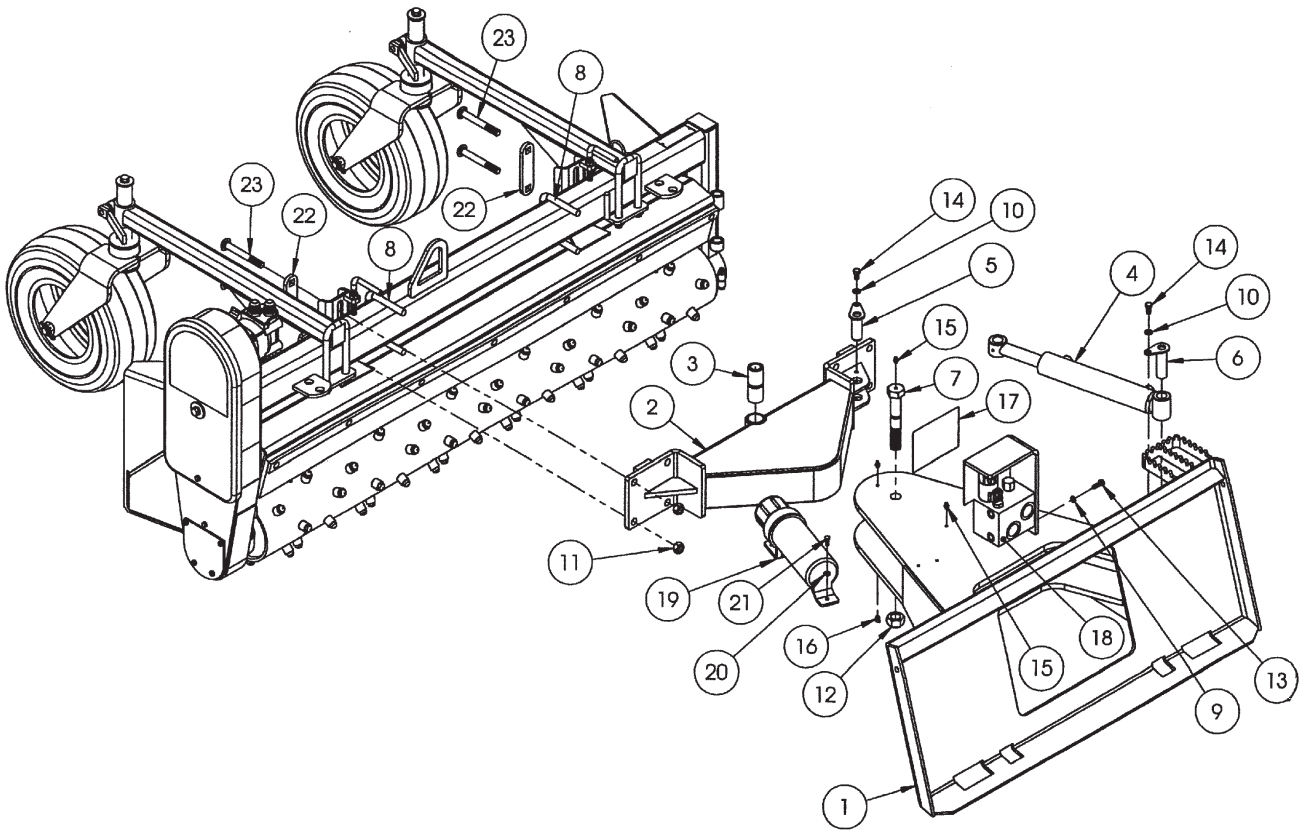

Figure 11. Hydraulic Angle Assembly
ANGLING MODEL (NON-FLOAT) ASSEMBLY PROCEDURE (See Figure 11 & Figure 15)
2. Attach the two gauge wheel assemblies to main frame using two 5/8" U-bolts and locking nuts as shown in **Figure 11 (page 30)** and **Figure 15 (page 40)**.
7. Attach the two gauge wheel assemblies to main frame with two 5/8" U-bolts and Locking nuts as shown in **Figure 11 (page 30)**.